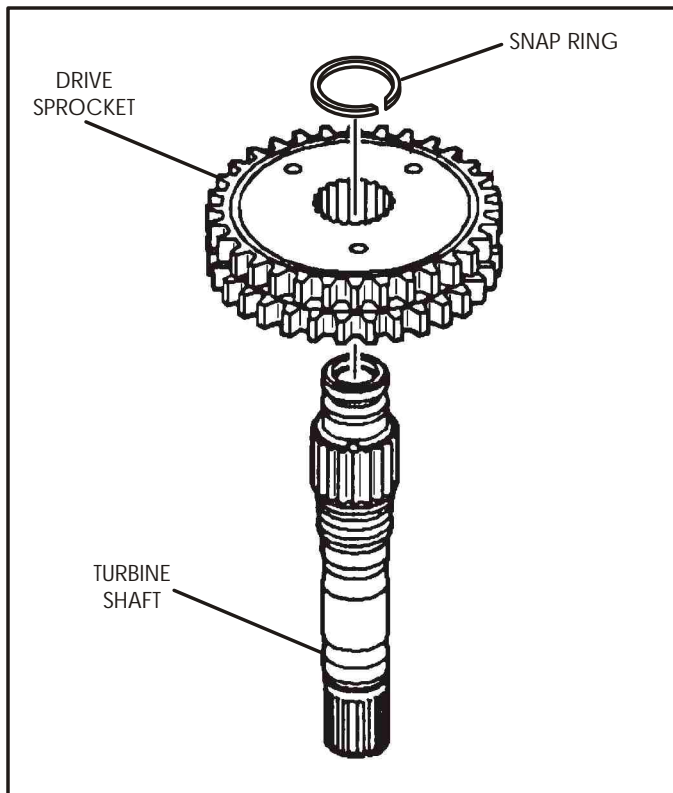

Figure 141
2. Remove snap ring retaining the drive sprocket on the turbine shaft and inspect the spline area of both turbine shaft and drive sprocket. Refer to Figure 141.